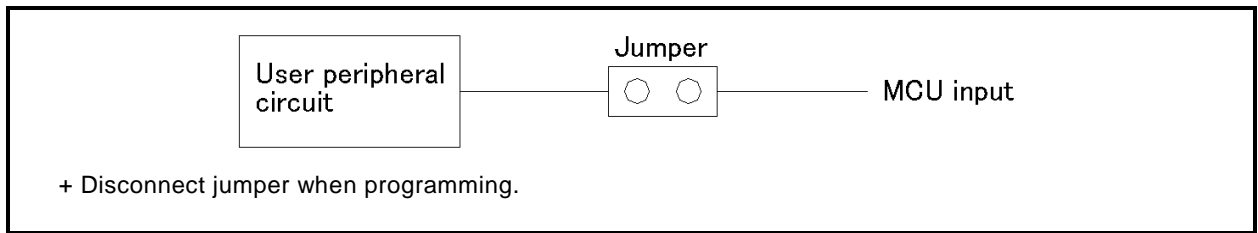

Fig.4.2: Collision Prevention Circuit Using Jumper
- 1: If the user peripheral circuit is an output circuit, you should disconnect by jumper to avoid output collision when executing serial I/O mode. (see Fig. 4.2)
(2) An example of a collision prevention circuit when user peripheral circuit outputs is shown in Fig. 4.2 and 4.3.